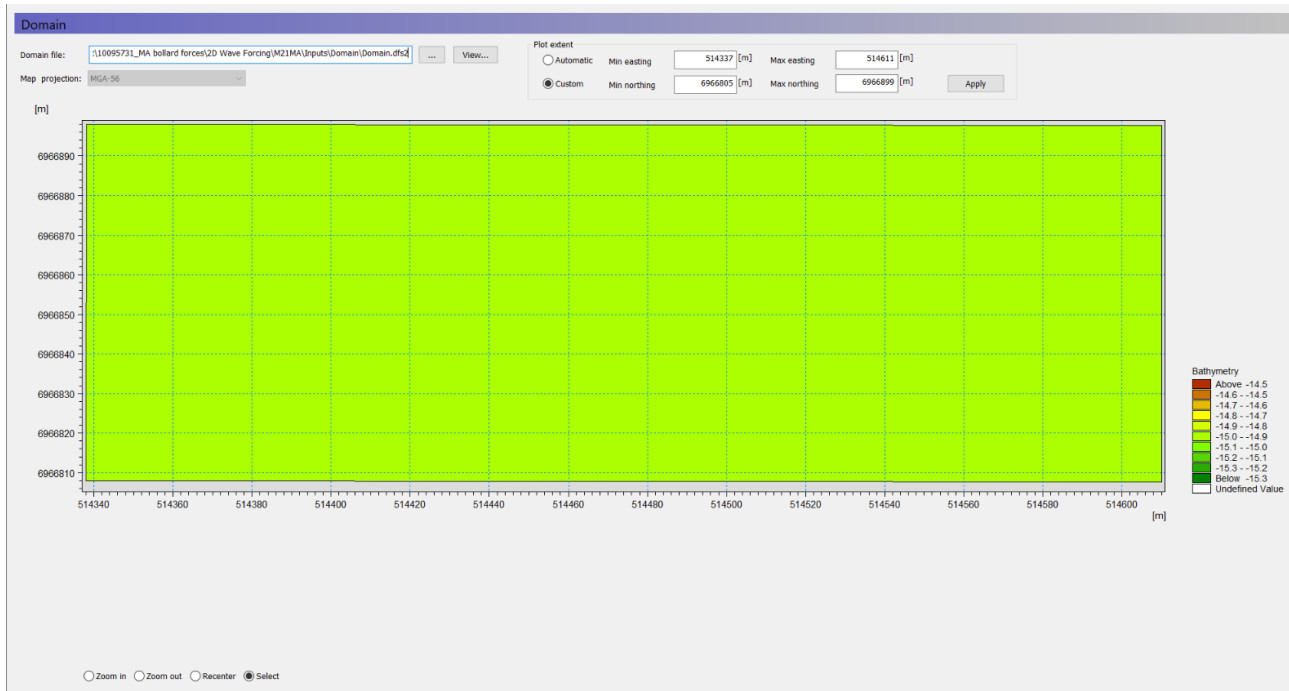

Figure 3-15 Domain window
1. Load the file and apply the custom settings seen in Figure 3-15